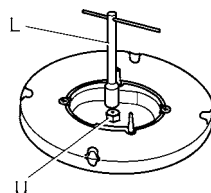

Fig.8
- By means of a straight spanner L, unscrew the nozzle U (fig.8) and substitute it with the corresponding one.